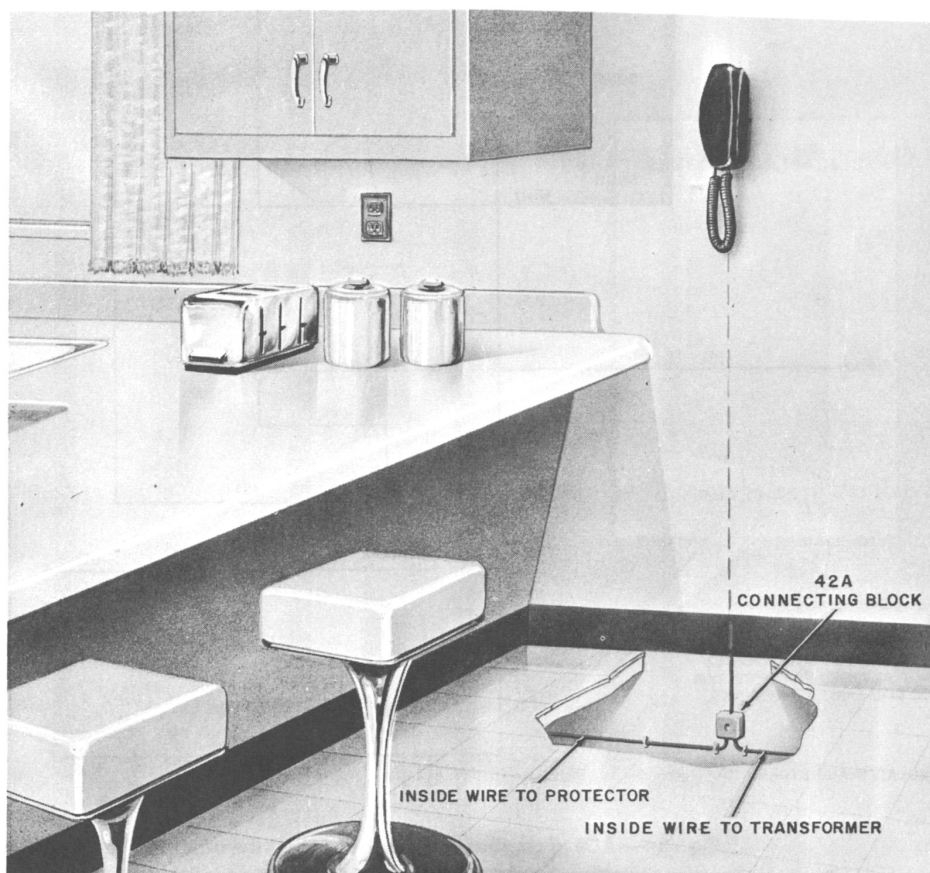

Fig. 4—Typical Installation of AC1 Telephone Base With 220A Hand Telephone Set
(2) For proper illumination of the dial the length of wire between the transformer and telephone set should not exceed 250 feet of inside wire.
(3) Ringing and/or identification ground, where required, is common to the lamp circuit. Damage to the transformer may result if there is sufficient ground potential difference between power and telephone grounds. Refer to appropriate section on bonding to power grounds in Division 460.
(4) A typical AC1 and AD1 telephone base installation including the hand telephone set, is shown in Fig. 4 and 5.
(2) When inside wire to the AC1 (wall) telephone base is exposed, terminate the line and transformer wiring at a common bridging point, such as a 42A connecting block (Fig. 4). Run one quad station wire from the connecting block to the telephone base. Wiring may enter from the opening at the bottom, top, or through the backplate.
(3) In cases where an inside wire is already in place through a wall, an exposed wire run may be necessary between the dial light transformer and the base.
(4) To replace the housing on the base, expose the line switch plunger and hold in place while the housing is placed on the backplate. The plunger can then be released so it will rest properly on the line switch arm of the base assembly. Tighten the captive housing screws and replace the P-82E800 cover.